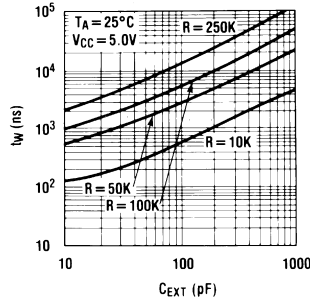

FIGURE 3.
5. For $C_X < 1000$ pF see *Figure 3* for T_W vs C_X family curves with R_X as a parameter: